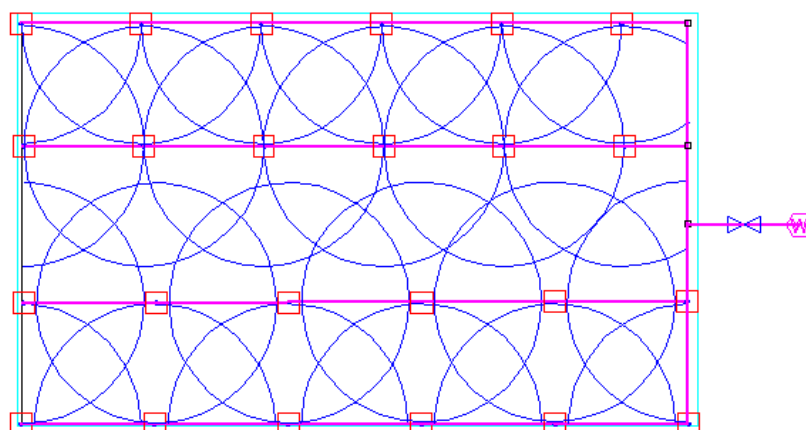

Figure 4-15
6. Select a **1" (25mm) valve** and connect the valve to the zone pipe end. Select *Mainline/Pipe* and connect the valve to the water supply to complete the system. See Figure 4-15. Follow the same design procedure as in the previous tutorials.